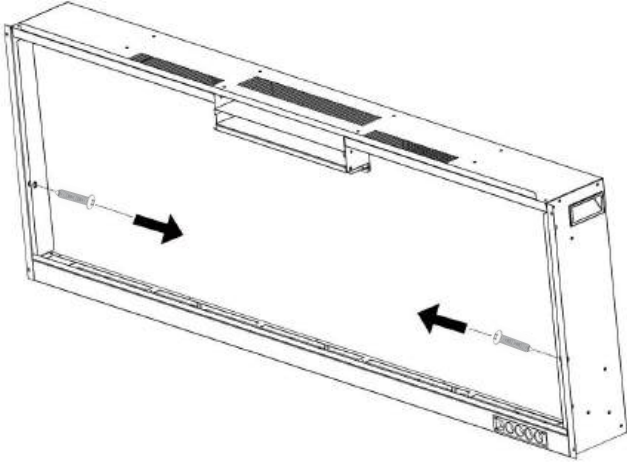

Fig. 2-1
- A. Take off the screws (1 per side) from the sides of the fireplace. Set the screws aside (**Fig. 2-1**)